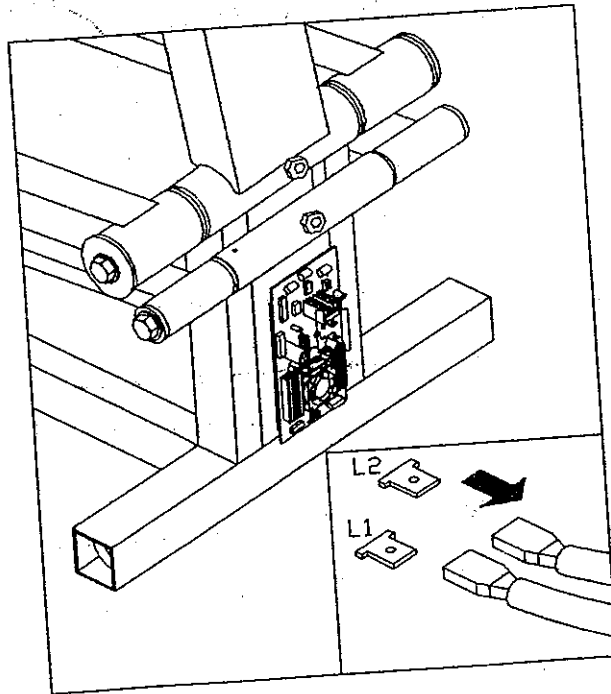

Fig. 12
11. Unplug the two blue wires (L1 & L2) located on the drive board from their terminals (see Fig. 12).